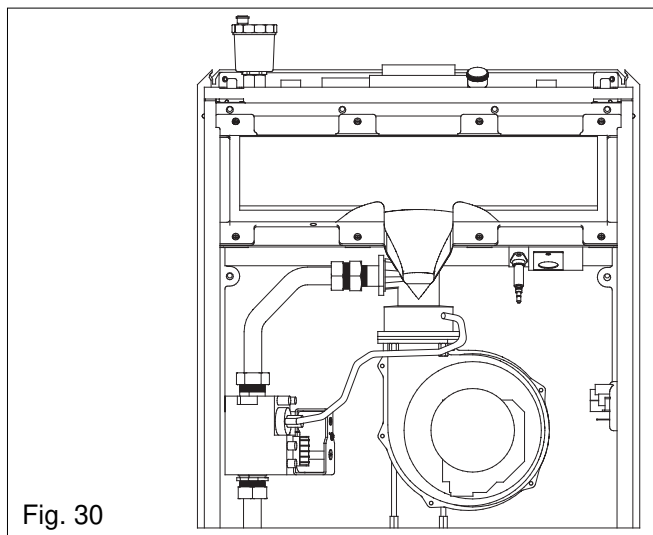

Fig. 30
**6.19 COMBUSTION COVER (see fig. 30)**